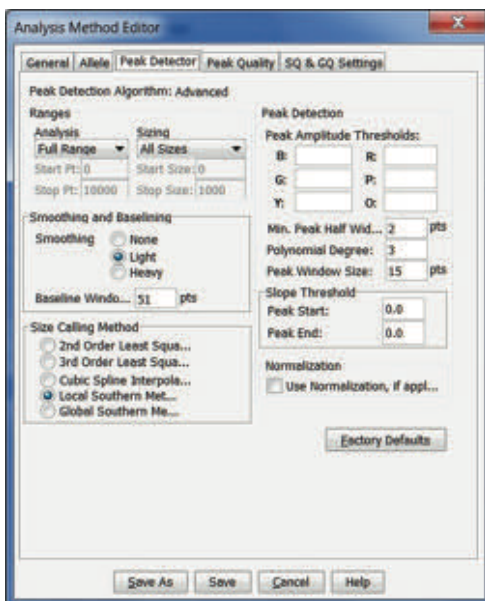

Figure 18. The GeneMapper® ID-X Software, Version 1.4, Peak Detector tab.
9. Select the Peak Detector tab (Figure 18). You may need to optimize these settings. In-house validation should be performed.
9. Select the Peak Detector tab (Figure 18). You will need to optimize these settings. In-house validation should be performed.